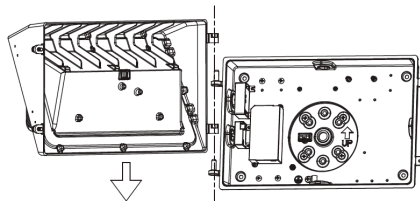
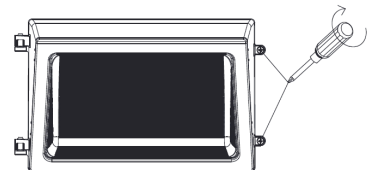

Fig. 1.8
Fig. 1.9
7. Attach the front cover of the luminaire back to the mounting plate (Fig. 1.8) and tighten both screws on the side of the luminaire (Fig. 1.9). Remember to reconnect the quick disconnect plug before closing the luminaire.